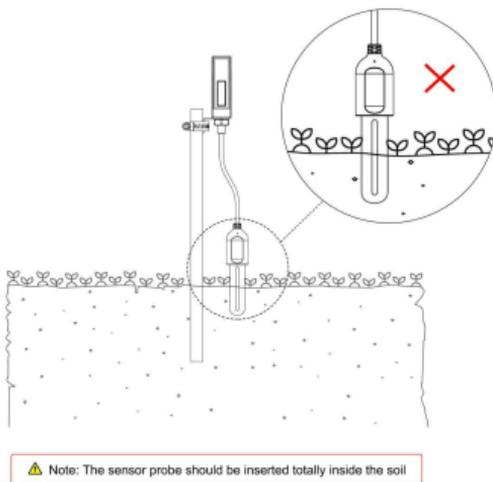

Figure 29: The sensor probe should be inserted totally inside the soil
- ✘ The sensor probe does not totally insert inside the soil, like the Figure 29.